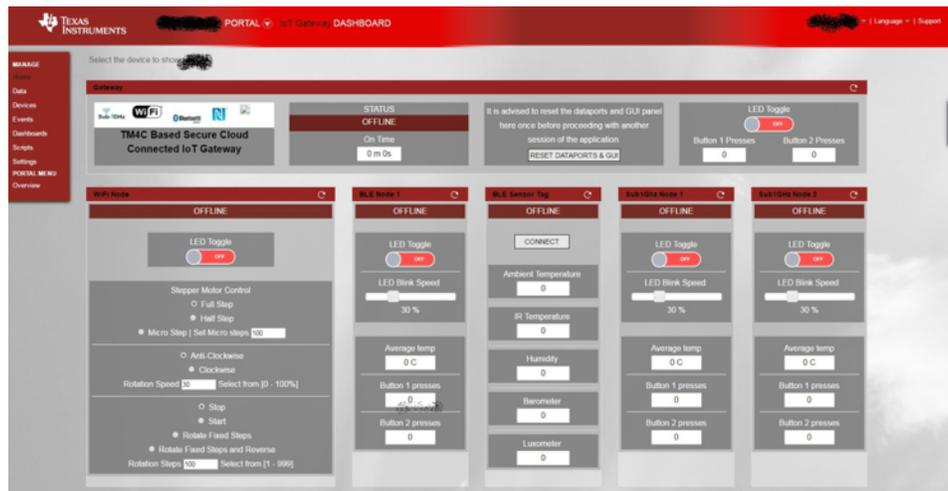

Figure 23. Exosite Dashboard Associated With Gateway Device Registered
6. Click on "Dashboards" in the left-hand side menu. Then, click on "IoT Gateway" under the "Portal Dashboards" section. The dashboard as shown in Figure 23 should appear.